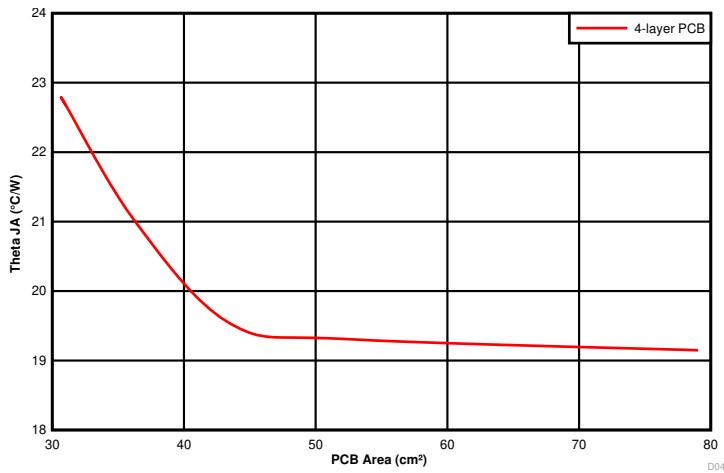

Figure 10-4. $R_{\theta JA}$ versus PCB Area (per Layer)
The amount of PCB copper affects the thermal performance of the device. Figure 10-4 shows the effects of copper area on the junction-to-ambient thermal resistance ($R_{\theta JA}$) of the TPSM53603. The junction-to-ambient thermal resistance is plotted for a 4-layer PCB with PCB area from 30 cm^2 to 80 cm^2 .
3. Reference Figure 10-4 to determine the minimum required PCB area for the application conditions.